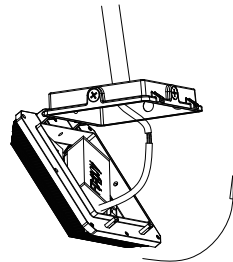

Figure 1-6
6. Turn the radiator up then cover the driver box ; Figure 1-6